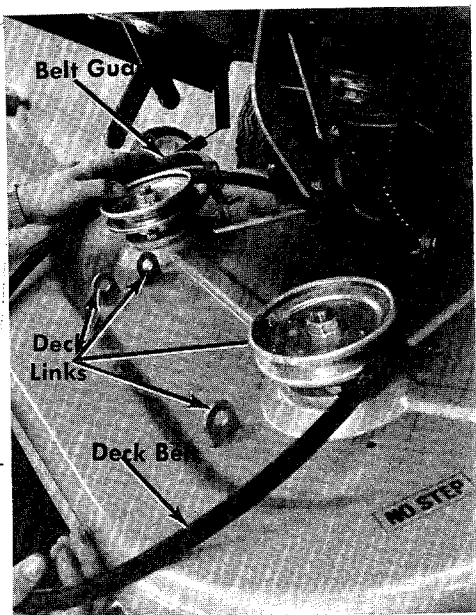

FIGURE 30. DECK LINKS
- Step 6. Remove the front four deck links from the cutting deck. See figure 30.
- Step 7. Remove the belt guards from both deck pulleys. See figure 30.
- Step 7. Tip the deck down as shown in figure 30.
- Step 9. Removing the transmission belt. See figure 30.
- b. Remove the transmission pulley by removing the hex nut and washer. See figure 30.